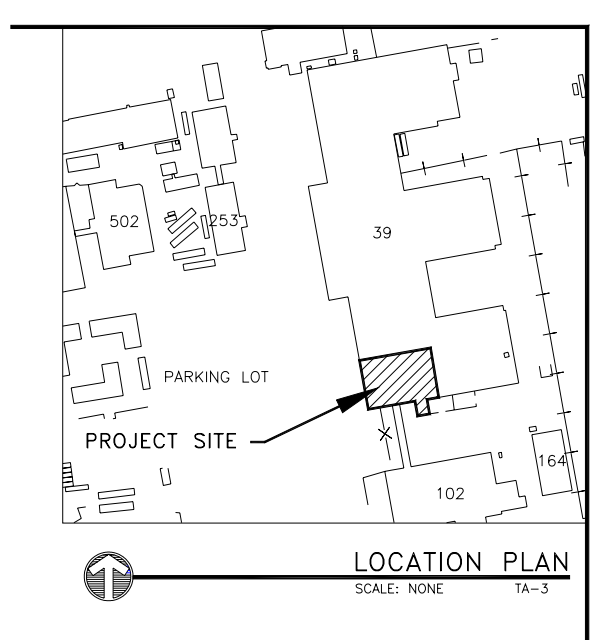

Figure 203-2
- B. Locate this plan on the Title Sheet in the upper right hand corner of the sheet (Fig. 203-1), as illustrated in Figure 203-2. The plan and all text shall not cover more than a 7.5" x 7.5" square.